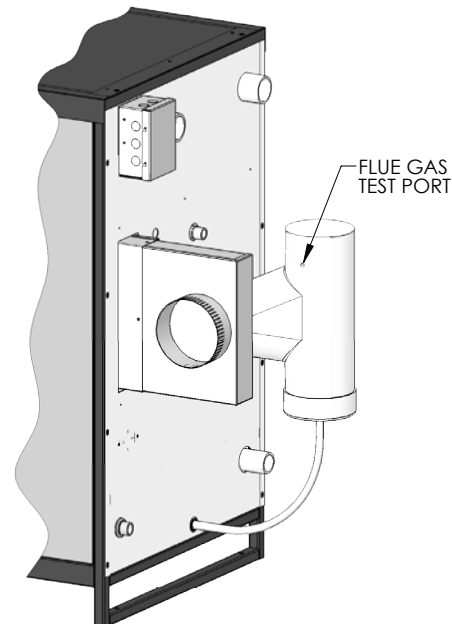

Figure 3.10: Exhaust Vent Connection
1. Figure 3.10 shows the exhaust connection on the rear of the boiler in the middle of the rear of the boiler. The exhaust connection is a 6" PVC/CPVC female connection. See Table 3.5 for common adapter fittings.
- Figure 3.10 shows an illustration of the plugged sample port on the outlet of the drain tee for the PFC-625 and PFC-750 boiler.